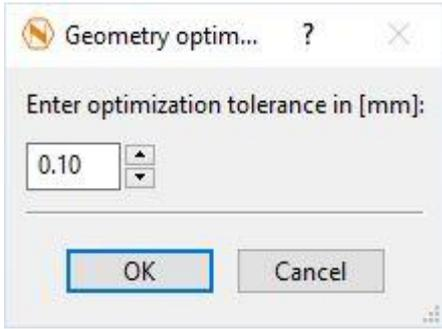

Figure 24
- Next the Optimizer asks for an **optimization tolerance** (Figure 24).